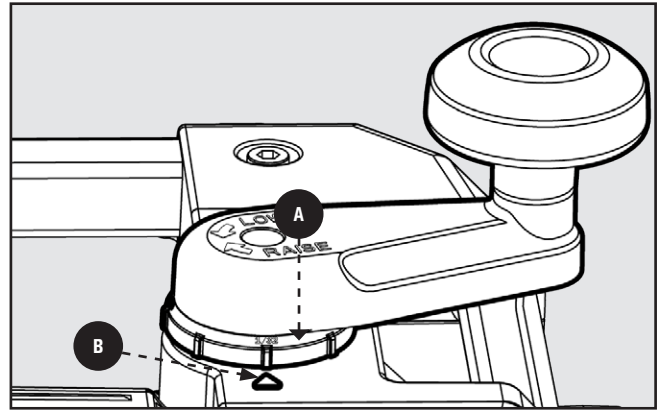

FIGURE 18
The cutterhead height adjusting handle has an adjustment ring **A** Figure 18. The Adjustable Index Ring is best utilized after the initial cut has been made. To use the adjustment ring to make fine adjustments:
2. Set the ring **A** Figure 18 to align the zero with the arrow **B**.